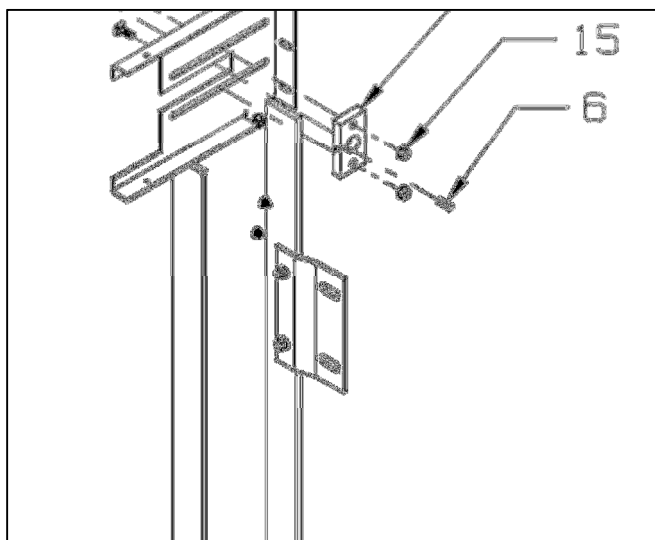

Fig. 6
4. Anchor the wall bracket. DO NOT tighten the anchors securely at this time — they will be tightened later on, after the head assembly is installed. (See Figure 6)